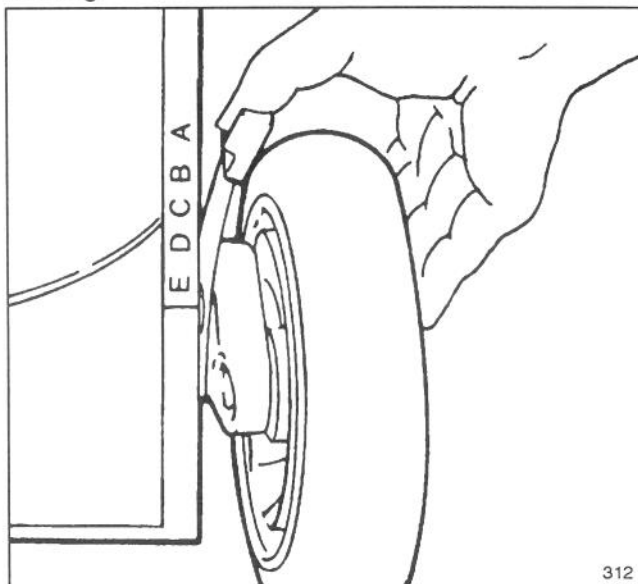

Figure 14
Five letters cast into the housing represent each graduated height-of-cut increment (Fig. 14).
2. For easier adjustment, lift housing up so wheel is off ground. **Do not put fingers under housing when lifting.** Squeeze adjusting lever toward wheel and move to desired setting (Fig. 14). Ensure pin on adjusting lever engages slot in housing. Adjust all wheels to the same setting.